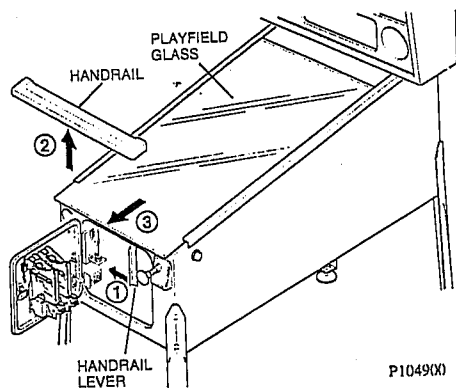

FIGURE 10: REMOVING PLAYFIELD GLASS
19) Open the coin door. Locate lock lever and pull towards center of cabinet; remove handrail and set aside. Remove playfield glass by sliding down and out of armor guides. CAREFULLY set glass aside (see Figure 10).